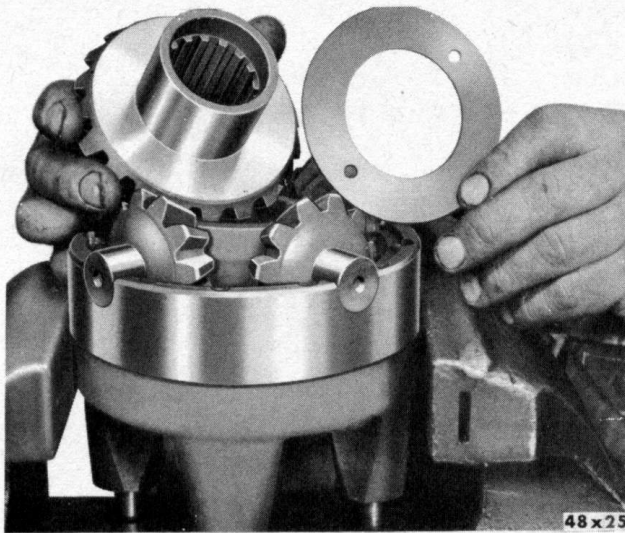

Fig. 70—Removing Thrust Washer from Side Gear
- (20) Remove differential case bolts after removing lock wire and separate differential case halves.
- (21) Remove thrust washer from long hub of differential side gear (Fig. 70).